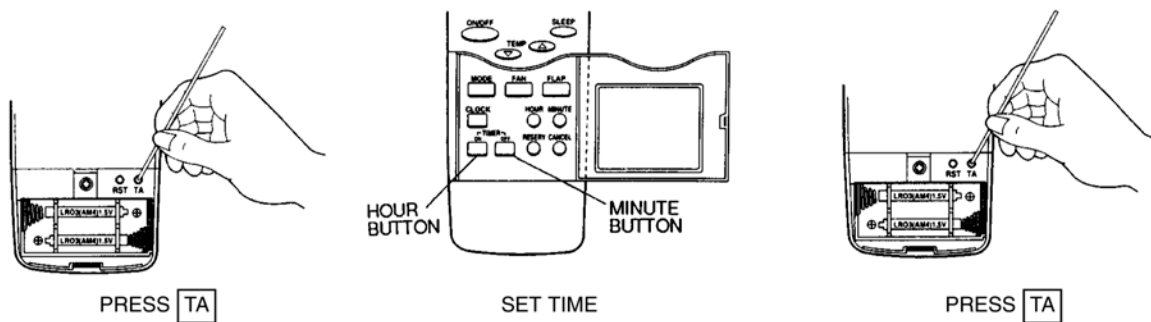

Fig. 18 — Setting the Current Time
1. Press the **TA** button (located on the back of the remote controller; see Fig. 18) with an instrument screwdriver or similar small, pointed tool, and the current time indication symbol flashes.
2. Set the current time with the hour and minute buttons on the front of the remote controller (see Fig. 18) while the current time indication is flashing. Note that a.m. and p.m. are also indicated as the times are scrolled through.